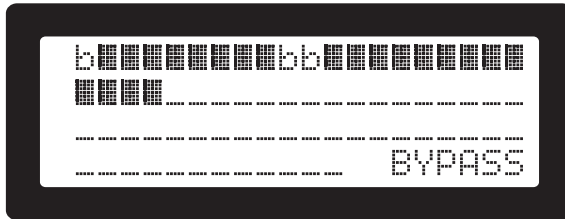

Figure 16. Bypassed zones overview screen
- Pressing [**BYP**] again: The zones overview screen (Figure 16) is displayed. Each zone is represented as one character. In the list view each zone bypass is shown with either **[(z)]**: Zone bypass only, **[(r)]**: Relay bypass only, **[(b)]**: Zone and relay bypass.